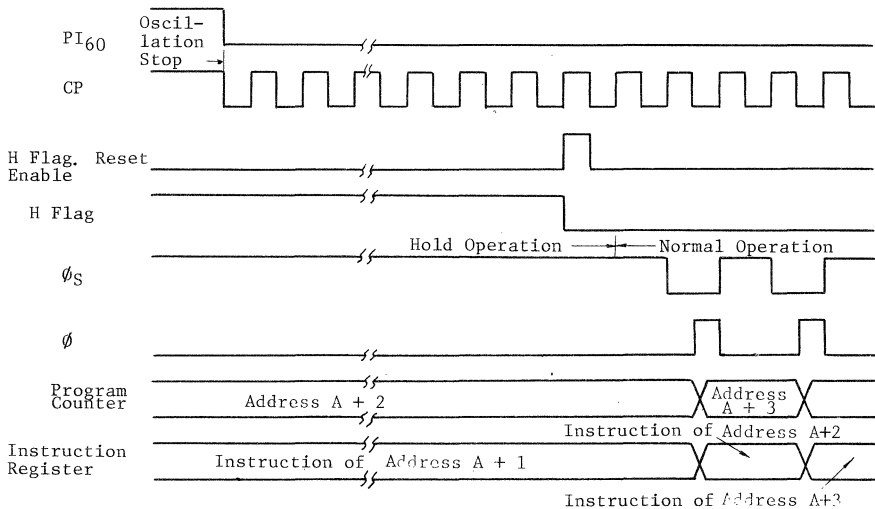

Fig. 4 Restart Timing from Hold Operation (Oscillation Stop)
When the oscillation is suspended during hold operations, restart operation begins in the lapse of a certain period of time after a start of oscillation by holding PI₆₀ terminal to "L" level. (Refer to Fig. 4.) Special attention should be paid to the fact that in TCP4620BP the divider (2) is reset to "0" by holding PI₆₀ terminal to "H" level.